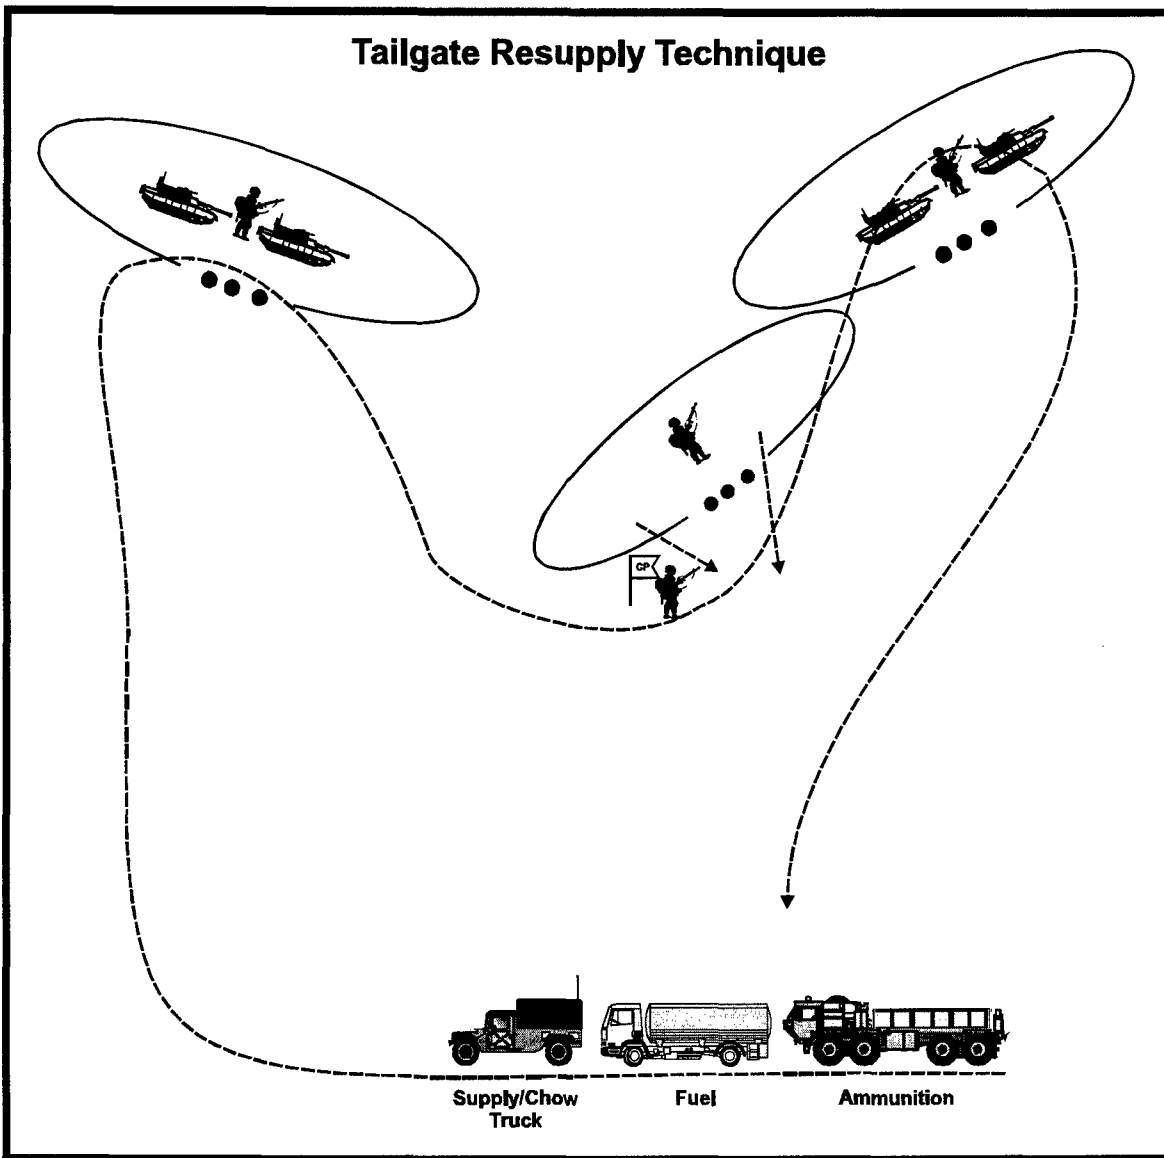

Figure 8-1
□ ***"In-Position,"*** also called the ***"Tail Gate"*** technique -- supplies come directly to the elements in the company trains. For this technique, units do not have to move the supplies from one location to another, but this operation may provide the enemy a signature of the company's location (see Figure 8-1).